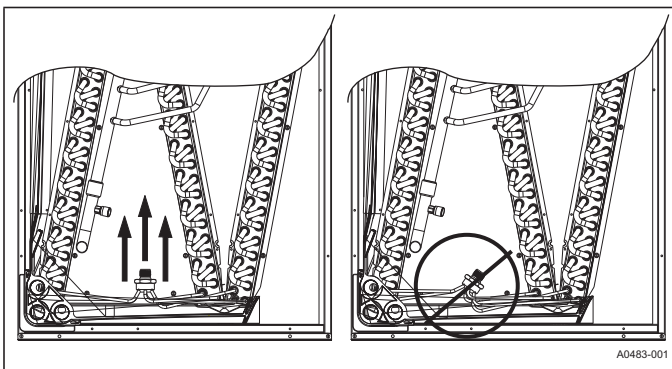

FIGURE 10: Recommended Distributor Adjustment
2. Distributor position must be adjusted to allow the preformed liquid line assembly to properly line up with the hole in the tubing access panel. Raise the distributor body approximately 2" toward the top of the coil or what would be the top of the coil if coil was in the upflow position. See Figure 10. Adjust as necessary.
5. Slide the nut removed in step 3 over the supplied liquid line. Place supplied Teflon washer from TXV kit in place on TXV, and install liquid line to the top of the thermal expansion valve. Adjust assembly so liquid line aligns with hole in access panel. See Figure 10. Hand tighten the liquid line, and apply an additional 1/4 turn to seal.